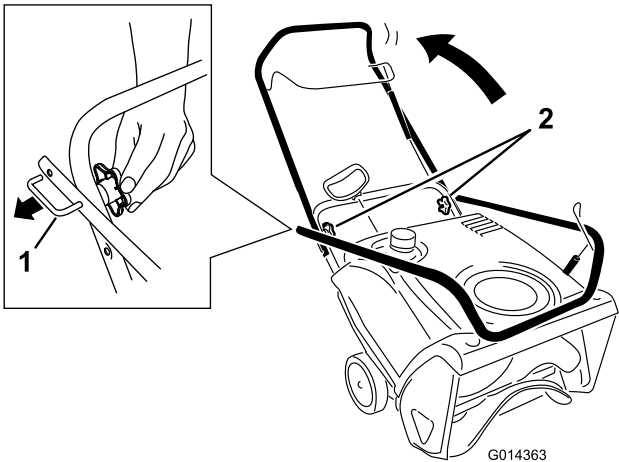

Figure 4
1. Loosen the handle knobs, pull out the U-shaped handle locks until you can move the handle freely, and rotate the handle to the operating position (Figure 4).